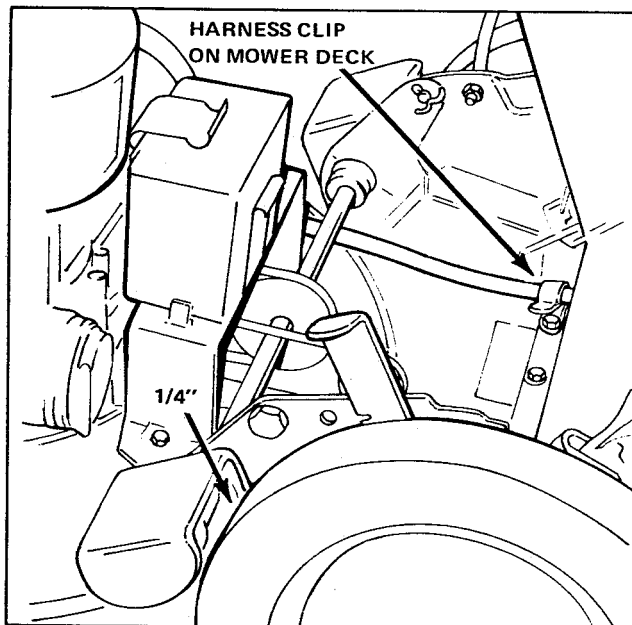

Figure 4. Installing Harness in Clip
4. Reassemble the engaging rod turnbuckles, tightening them so that the driver wheels are approximately 1/4 inch from each rear wheel. (See figure 4).
2. Slip the harness through the cable clip on the mower housing (figure 4).